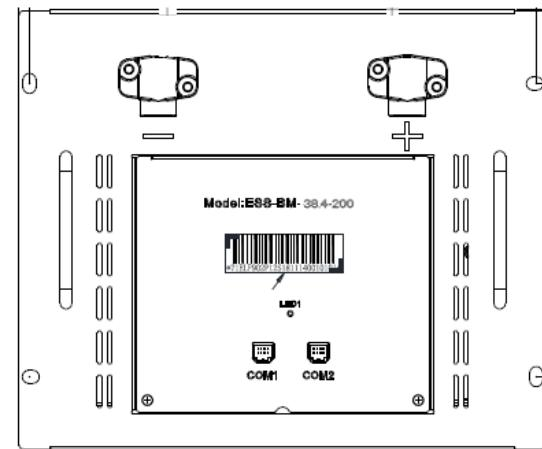

Figure 6-1 Diagram of the battery module label (picture is for reference only)
- 2) Determine the installation position of the battery module according to the label of the battery module(as shown in Figure 6-1, the 4 digits are the installation position of the battery module, 0101 indicates the first position of the first cluster, and 0211 indicates the 11th position of the second group) .